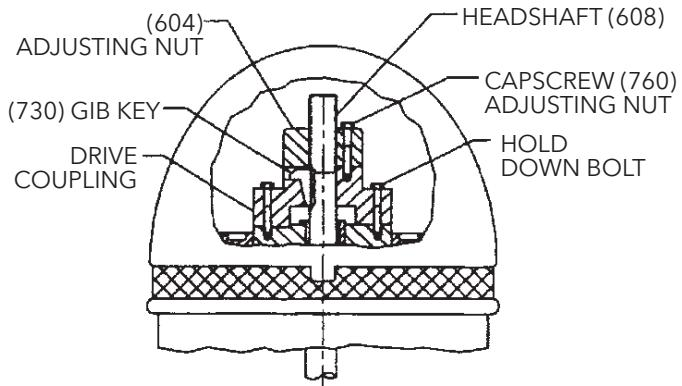
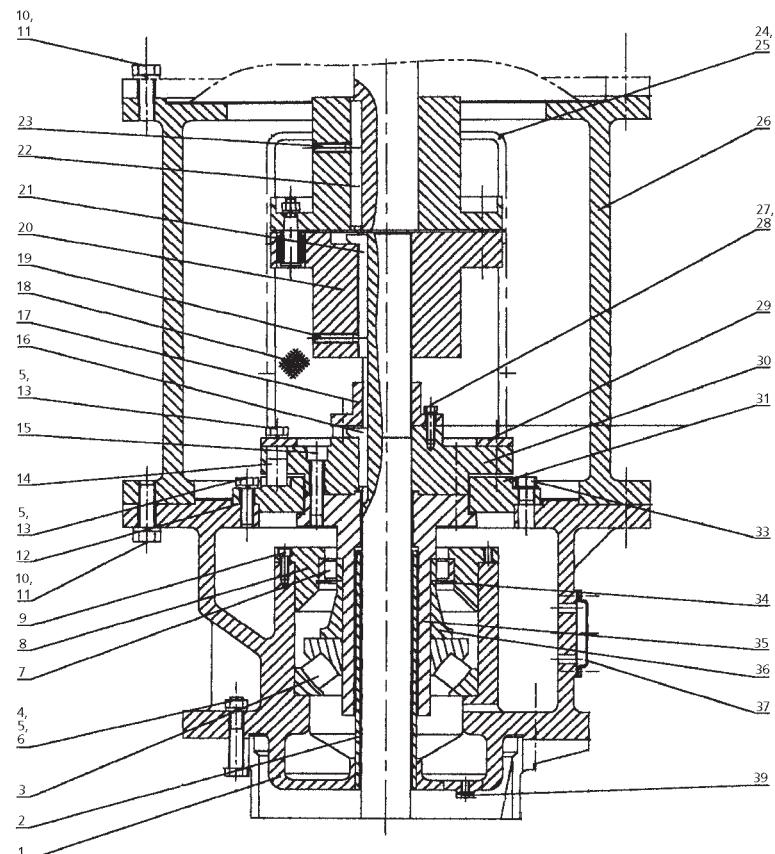

Figure 12
Figure 19 - Oil Lubricated Thrust Pot
1. The driving mechanism of all hollow shaft driver is shown on Figure 12. The head shaft (608) extends up through the quill or hollow shaft of the driver and is held in place by an adjusting nut (604), which not only carries all the static and hydraulic thrust of the impellers and shaft, but also provides the adjustment for the impeller clearances. The head shaft is connected to top shaft (or stub shaft) by a threaded coupling or a rigid flange coupling.
6. After lowering and orienting the driver as explained above, remove the drive coupling and the hold down bolts (See Figure 12). Be sure to mark the location of the coupling before removing it.
If the unit is supplied with a thrust pot (see Figure 19), the thrust pot should be installed on top of the discharge head or motor stand before installing the driver. The driving mechanism of the thrust pot assembly is similar to the hollow shaft motor. (See Figure 12)
OIL LUBRICATED THRUST POT (SEE FIGURE 19)